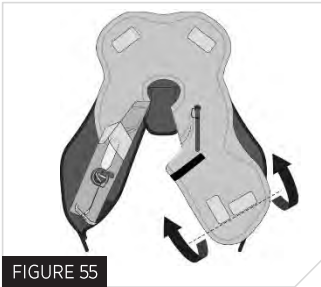

FIGURE 52
4. Fold the outside edge in towards the center of the bladder along Fold Line 2 (Fig. 52).